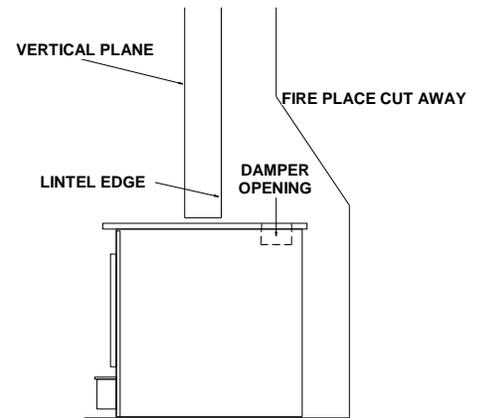

FIGURE 2 POSITIONING
When positioning the heater, the following conditions **MUST** be met! (See Figure 2).
1. The front of the damper opening must be positioned **BEHIND** the back edge of the lintel to ensure proper draft. (See Figure 2).